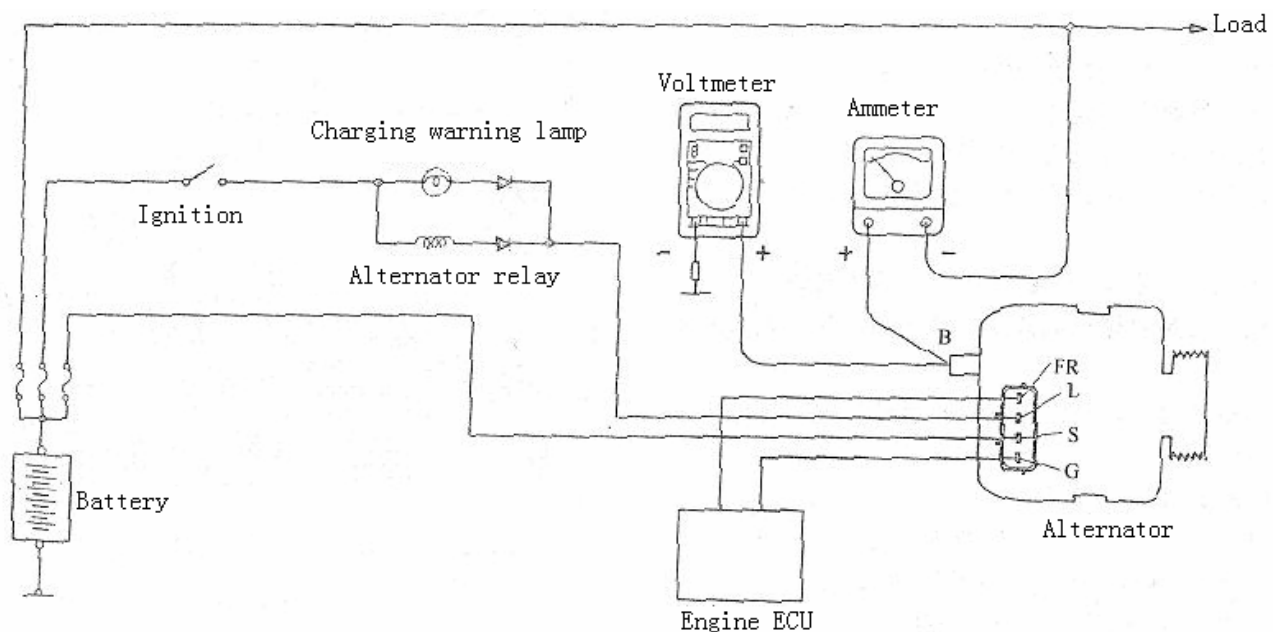

Fig. 9-30
2) Output current test (see Fig.9-30)